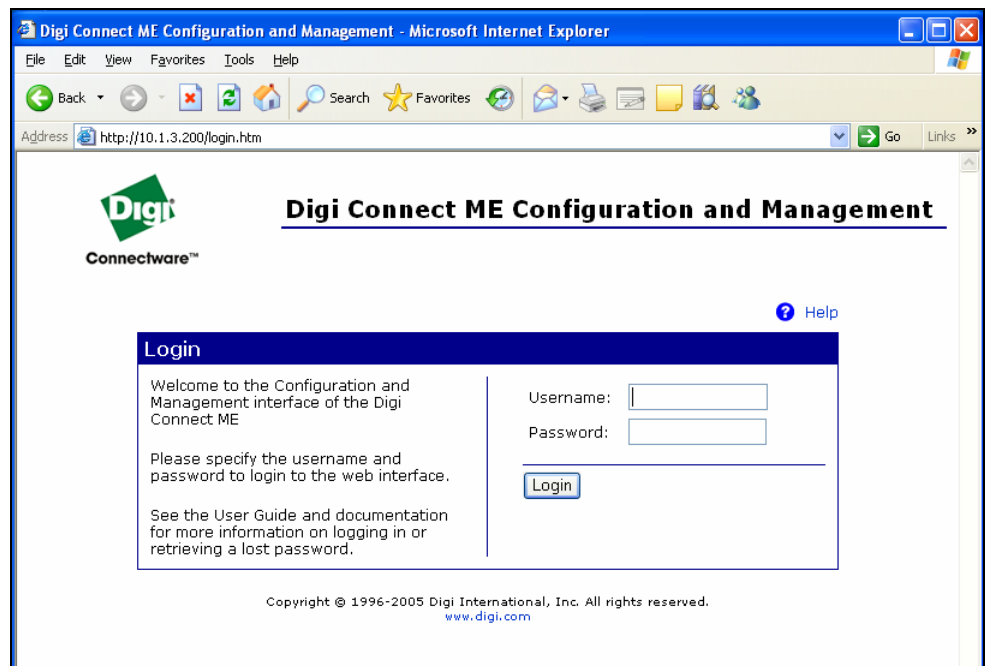

Figure 7-3
6. If the CPC is in the same subnet as the computer, start the device discovery program **Discovery.exe** and click on **Open web interface**. The username and password are “**tsicpc**” as shown below in Figure 7-3. If the CPC is not in the same subnet as the computer, type in the IP address in your web browser. Work with your network administrator to make sure the IP address is accessible from the network your computer is in.